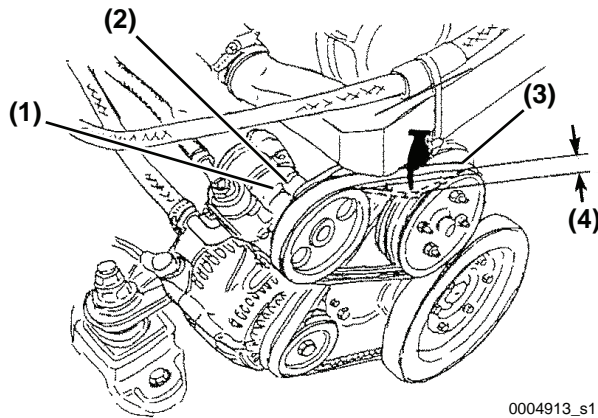

Figure 4-15
1. Check the belt by pushing on the middle of the belt (**Figure 4-15, (3)**) with your finger. With proper tension, the belt should deflect 8 to 10 mm (approximately 3/8 in.) (**Figure 4-15, (4)**).
2. Loosen the power steering pump bolt (**Figure 4-15, (2)**) and move the oil pump (**Figure 4-15, (1)**) to adjust the belt tension.